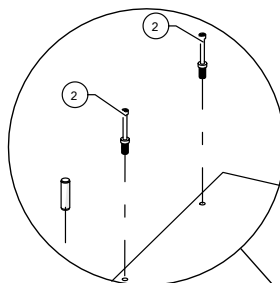

Figure 10
- 12.** Screw in combi dowels into the pre-drilled 5 mm border-upper holes (Figure 10).